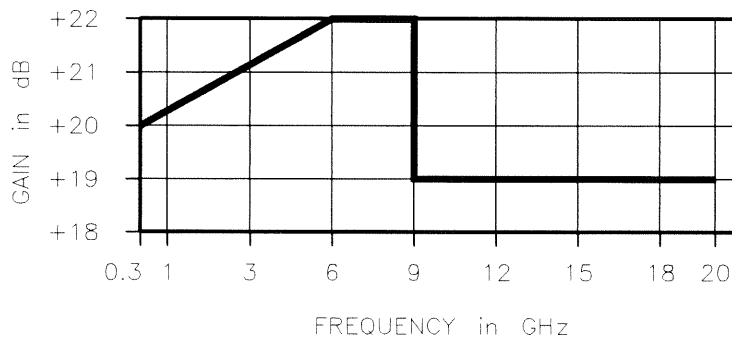

Figure 7-15. LO Amplifier Typical Minimum Gain with 0 dBm Input
The typical minimum gain of the amplifiers are shown in Figure 7-15. However, the performance of each amplifier is adjusted at the factory so the test and reference channels have the same output power. If you have replaced an amplifier refer to “LO Amplifier Adjustments”. Also refer to “LO Amplifier Adjustments” when checking the overall balance of the LO channels.
4. With a power meter, measure the power output of HP 85309A J2, Reference LO Out. The power should equal or exceed the value shown in Figure 7-15.
5. With a power meter, measure the power output of J3, TEST LO/IF on the rear panel of the HP 85309A. The power should equal or exceed the value shown in Figure 7-15.